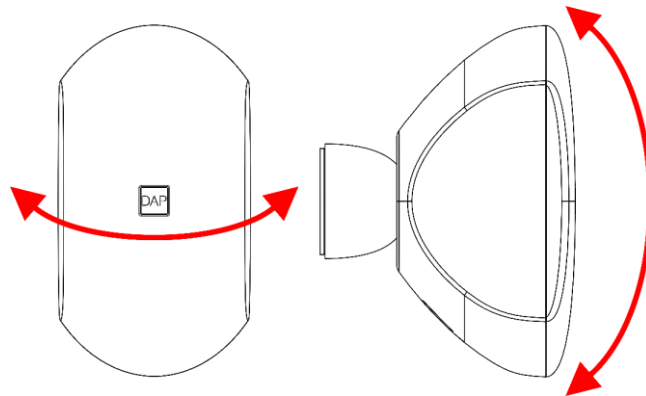

Fig. 20
- 03) Tilt the device. The tilt range is 30° in all directions (Fig. 20).